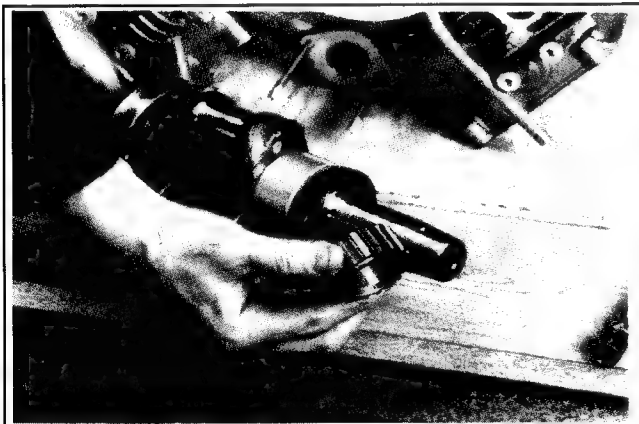

Figure 9-55. Belt Drive Sprocket Removed.
1. The belt drive sprocket has a low interference fit onto the crankshaft. If it will not slide off, heat the gear slightly with a propane torch until it expands and loosens, then remove it with a shop towel or glove. See Figure 9-55.